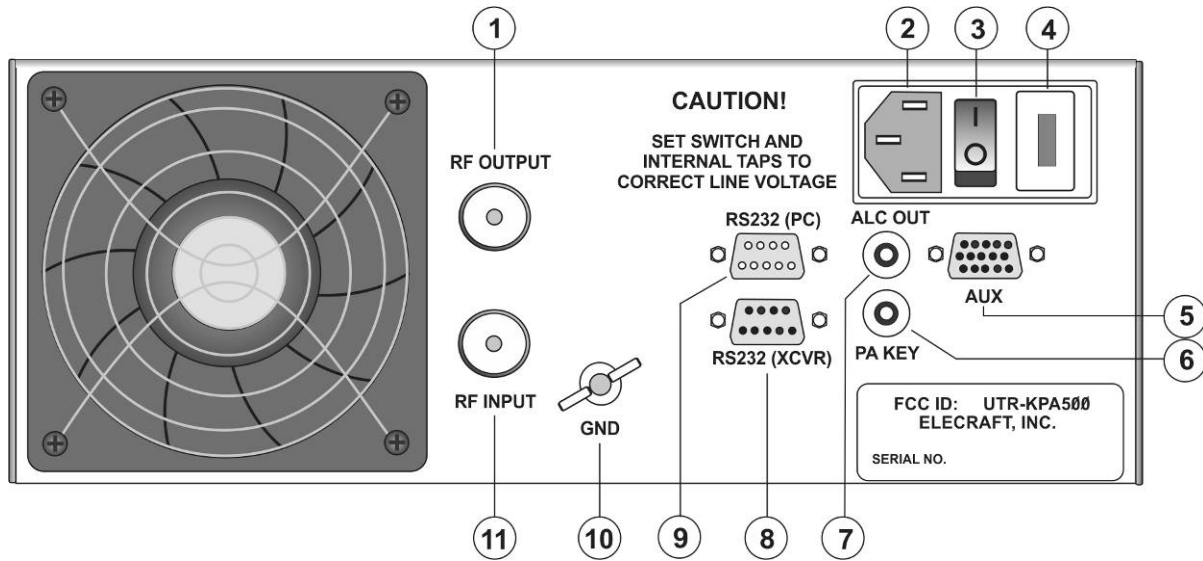

Figure 1. KPA 500 Rear Panel
The KPA500 rear panel is shown in Figure 1. The connectors and controls are described following the figure.
**⚠ Always turn the amplifier off using the rear panel switch (③ in Figure 1) before attaching or removing cables.**
1. When the KPA500 is turned off using the front-panel switch, part of the control circuitry remains on as long as mains power is applied and the rear panel power switch is on. (The rear panel switch is ③ in Figure 1 on page 4). Keeping the control circuitry energized allows the KPA500 to be turned on and off remotely as well as from the front-panel switch. Although the amount of power consumed in this state is low, you may notice the left rear corner of the cabinet is slightly warm. If you do not need to control the KPA500 remotely and would prefer to save the small amount of power required to power the control circuitry, either switch the rear panel power switch off or provide an external mains power switch. Be sure to switch the KPA500 off using the front panel switch first and wait for the fans to stop before switching it off at the rear panel or with an external switch.
1. Ensure a suitable 50 ohm load is attached to the RF OUTPUT connector on the rear panel (Figure 1, ①). A dummy load is recommended for initial tests.
2. Enable the power supply by pressing the rear panel rocker switch (Figure 1, ③) to the On (I) position.